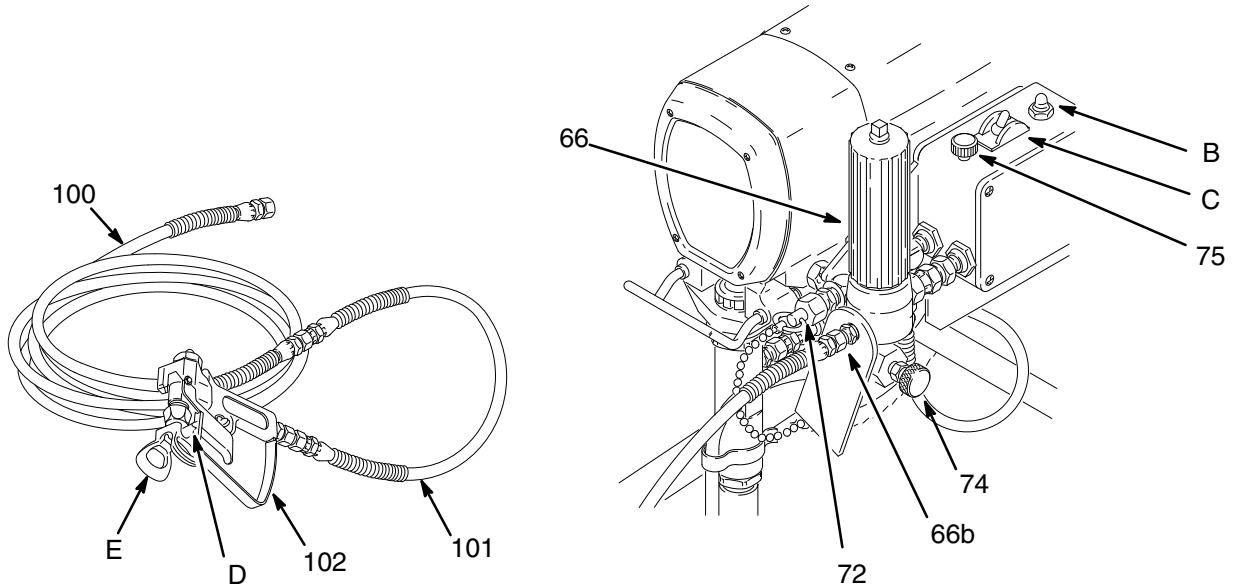

Fig. 2
- Never install any shutoff device between the filter (66) and the main hose (100). See Fig. 2.
**NOTE:** Refer to Fig. 2 while following this procedure.
3. Follow this step to connect a second hose and gun. Unscrew the cap (72) from the optional outlet. Use a hose and a gun which are equivalent to the hoses supplied with the sprayer. Assemble the hoses and the gun, and then connect the hose to the optional outlet.